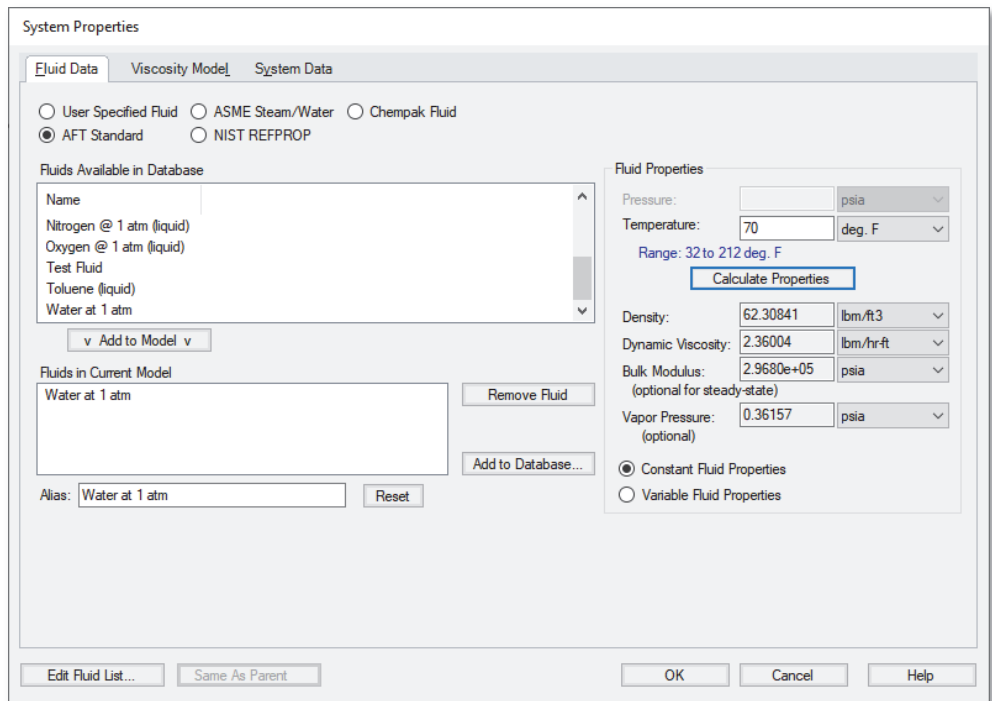

Figure 2.7 System Properties window is where you specify the fluid
- **Select System Properties from the Analysis menu** to open the System Properties window (Figure 2.7). For this example, use the AFT Standard database and select “Water at 1 atm” in the upper list, then click the “Add to Model” button. Enter a temperature of 70 deg. F and click the Calculate Properties button to obtain the Density, Dynamic Viscosity, Bulk Modulus and Vapor Pressure.